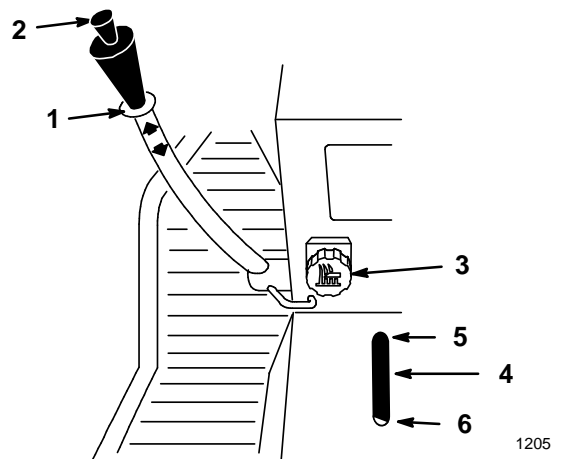

Figure 20
The attachment lift lever (on some models) (Fig. 20) is used to raise and lower attachments.
The Dial-A-Height control (Fig. 20) is used to limit the downward travel of the attachment. The Dial-A-Height knob is rotated to change the location of this stop, up or down.
1. Raise the attachment lift lever: Refer to Raising Attachments. In the raised, position the Dial-A-Height knob (Fig. 20) can be rotated to change the stop location. Turn clockwise to raise and counterclockwise to lower the height of the attachment.
2. The Dial-A-Height indicator (Fig. 20) will show the change, high to low, in attachment lift height as adjustment is made.